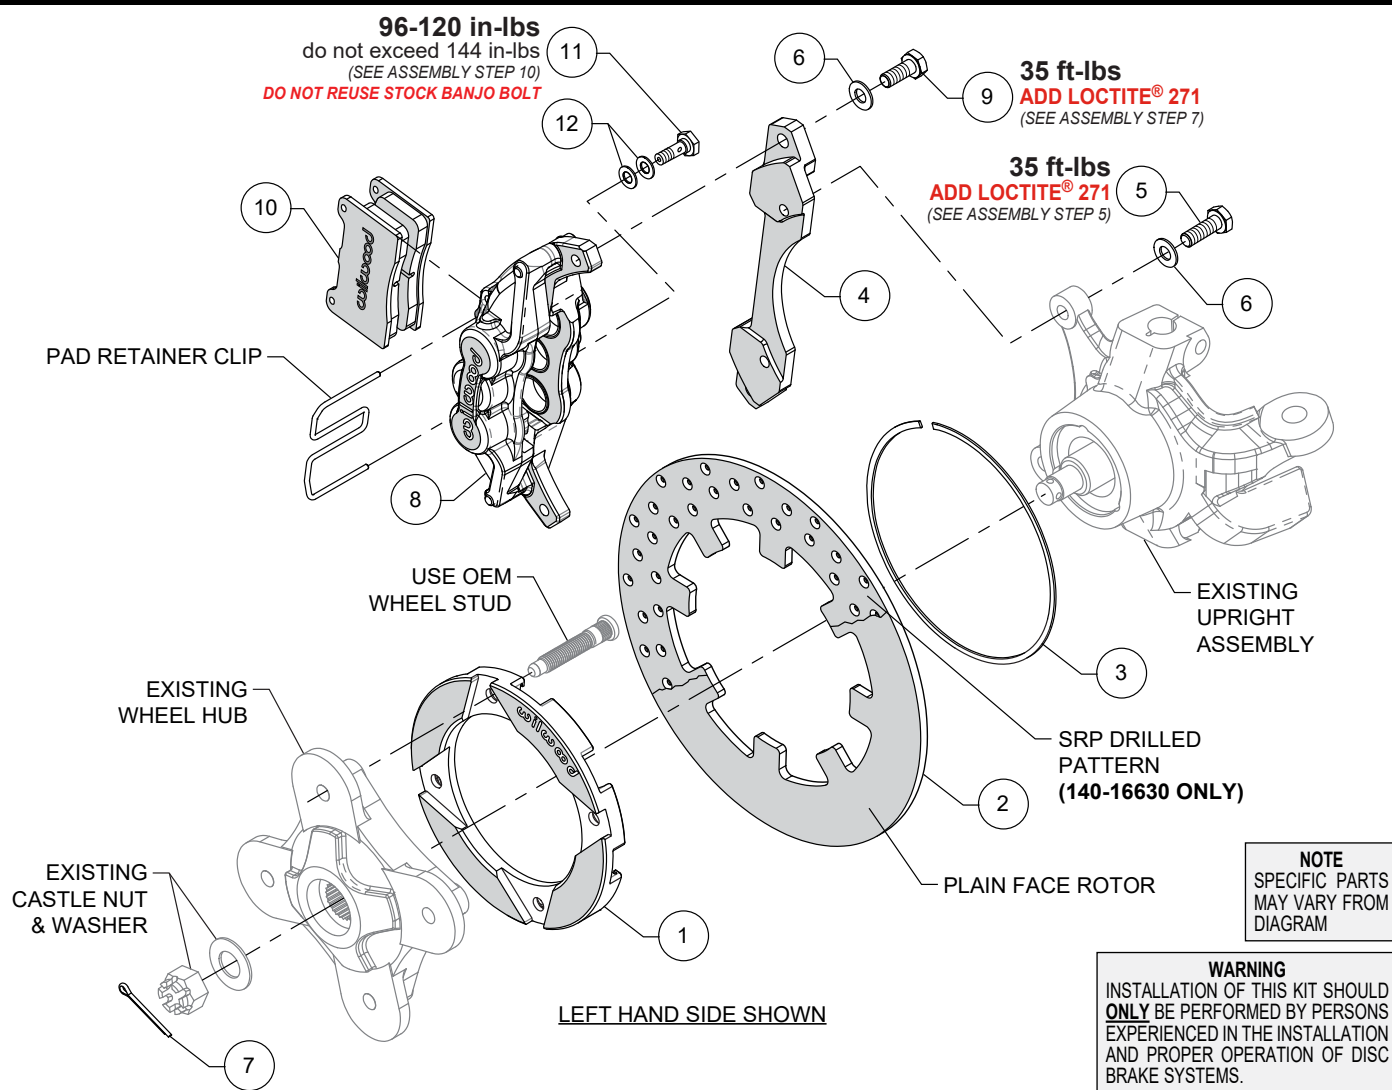

Figure 1. Typical Installation Configuration
**NOTE:** Numbers in parenthesis refer to the parts list and Figure 1 on the preceding pages.
**STEP 2** Place the existing OEM wheel hub face down and position the rotor adapter (1) onto the wheel hub as shown in Photo 1. **NOTE:** The existing wheel hub must be free of dirt and debris or excessive rotor run out may result. Press the OEM wheel studs back in through the rotor adapter and OEM wheel hub.
**STEP 3** Position the rotor (2) onto the rotor adapter (1), making sure the rotor lugs fit into the recesses of the rotor adapter, as shown in Photo 2.
**STEP 4** Secure rotor to the rotor adapter using the snap ring (3) by simultaneously pushing down on the rotor and installing the ring into the groove in the rotor adapter, as shown in Photos 3 and 4. Carefully inspect snap ring to ensure complete engagement in the groove.
**STEP 5** Orient the caliper mounting bracket (4), as shown in Figure 1 and Photo 5. Install using bolts (5) and washers (6). Apply red *Loctite*® 271 to the bolt threads and torque to value shown in Figure 1.
**STEP 6** Grease the splines and outer snout of the existing wheel hub with high temperature grease and slide the wheel hub/rotor assembly onto the axle, Photo 6. Attach using the existing OEM washer and castle nut. Tighten to OEM specifications and secure using cotter pin (7), Photo 7.
**STEP 7** Secure the caliper (8) to mounting bracket (4) using bolts (9) and washers (6), Photo 8. Apply red *Loctite*® 271 to the threads, and torque to value shown in Figure 1.
**STEP 8** Remove the pad retainer clip from the caliper (8), Figure 1. Insert the brake pads (10) into the caliper with the friction material facing the rotor, as shown in Photo 9. Reinstall the pad retainer clip, Photo 10.
**STEP 10** Attach brake line to caliper. Orient OEM brake line as shown in Photo 11 and connect to caliper using banjo bolt (11) and crush washers (12). Do not use lubricant or thread sealant on banjo bolt (11). Torque to minimum value shown in Figure 1. Check for leakage, increasing torque only to stop leakage without exceeding maximum specification. Replace crush washers and banjo bolt whenever reassembly is required. **Ensure hoses are routed to prevent contact with moving suspension, brake or wheel components.**